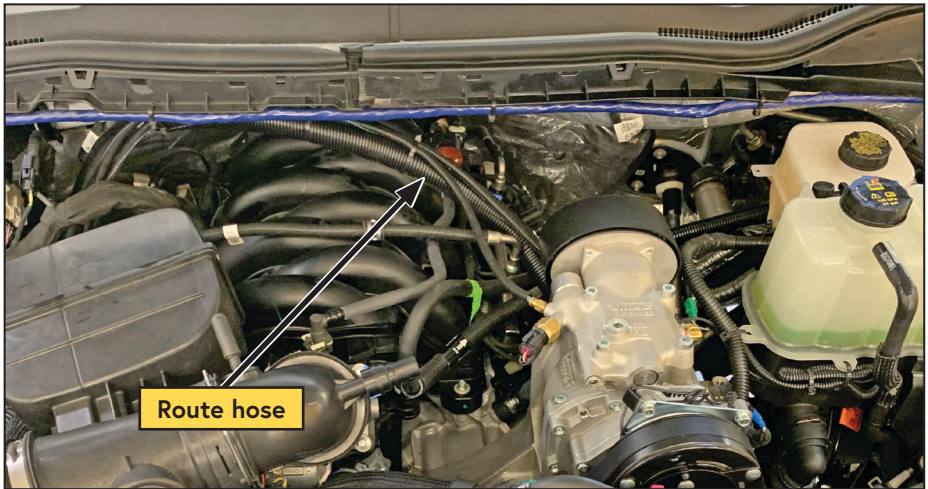

Figure 51 — Route discharge hose
- ☐ Route the 3/4 in discharge hose to the firewall, then toward the passenger side of the vehicle (Figure 51).